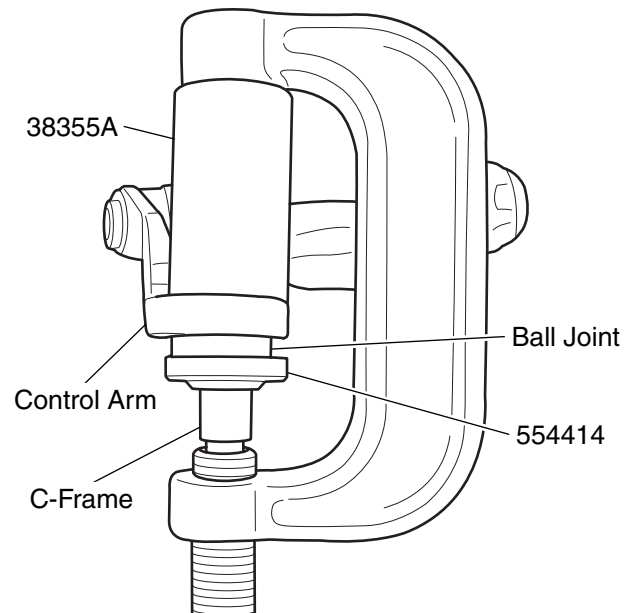

Figure 2. Ball Joint Installation
3. Position 38355A and 554414 on the ball joint as shown in Figure 2.